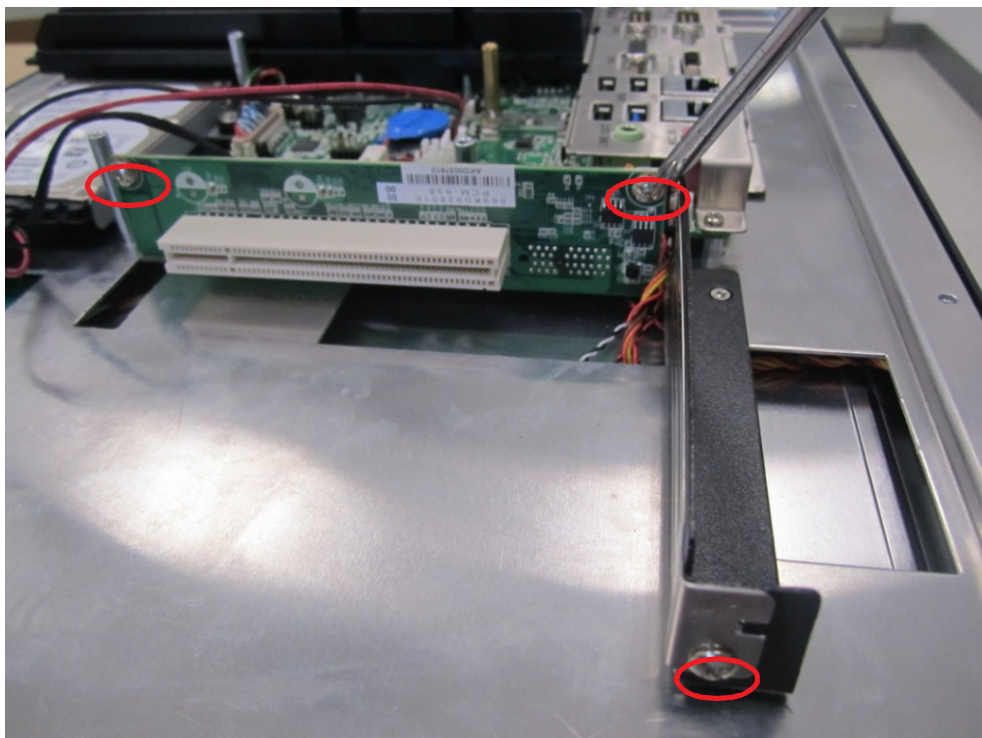

Figure 2.56
2. Remove the two screws on the riser card and the screw on the expansion slot shield (see Fig. 2.56) to retrieve the expansion slot shield.